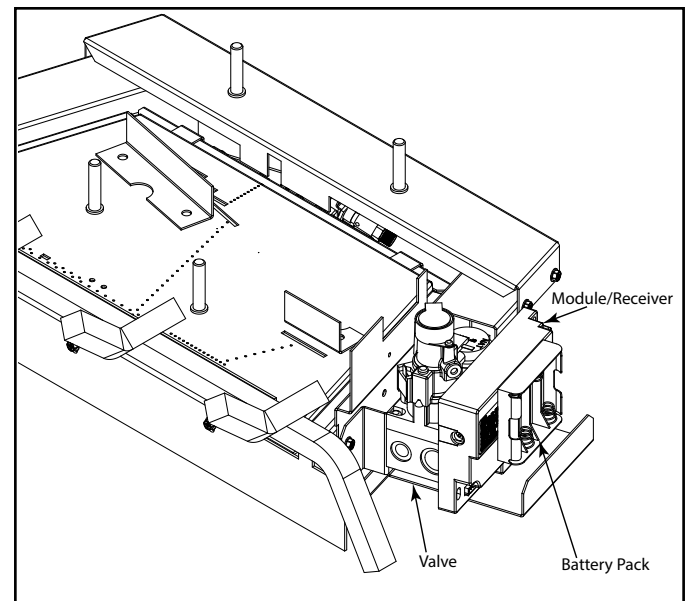

Figure 8.3 Battery Pack Location
- Verify batteries are installed in the remote transmitter and battery pack. See Figure 8.3.